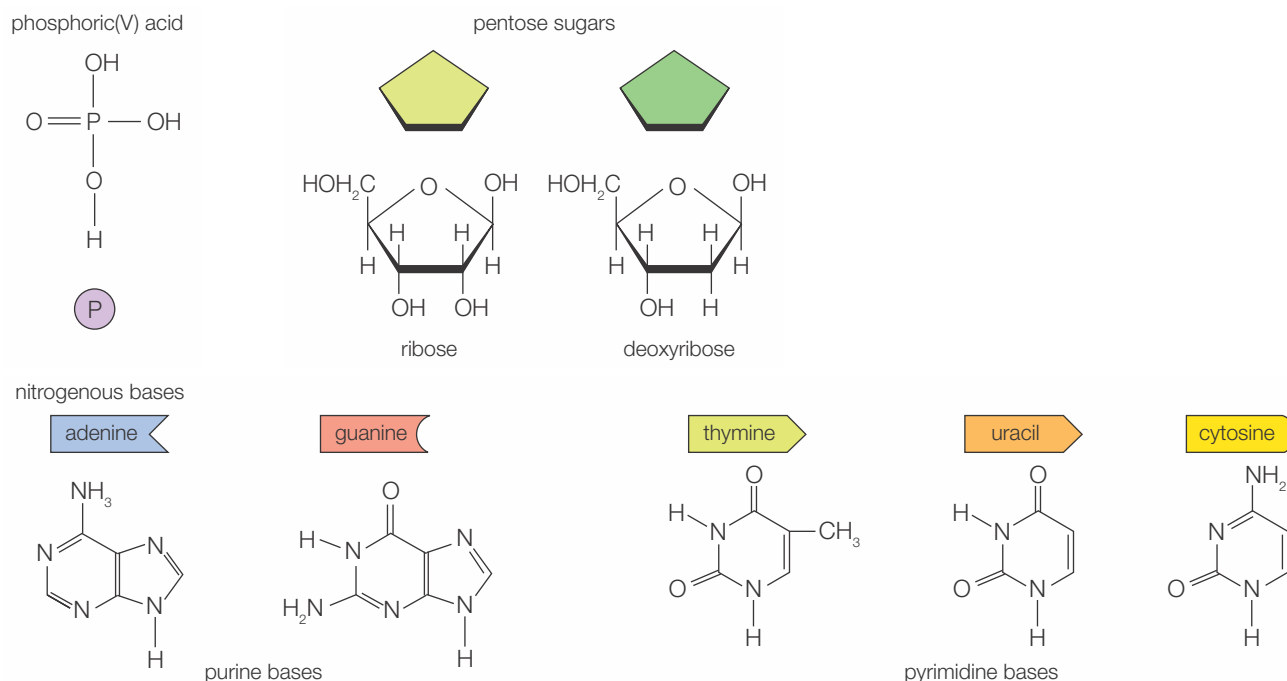

Figure 23.65 Components of DNA and RNA nucleotides
DNA and RNA are condensation polymers consisting of: two chains of sugar-phosphate backbone (the sugar is 2-deoxyribose in DNA and ribose in RNA), nitrogen-containing bases attached to each sugar; the bases are adenine (A), guanine (G), cytosine (C) and thymine (T) (in DNA only) and uracil (in RNA only) (Figure 23.65).
The nitrogenous bases present in RNA and DNA nucleotides are heterocyclic ring structures classified as purines or pyrimidines. The *pyrimidines* (thymine, uracil and cytosine) contain just a single ring (Figure 23.65), whereas the *purines* (guanine and adenine) contain two fused rings (Figure 23.65).